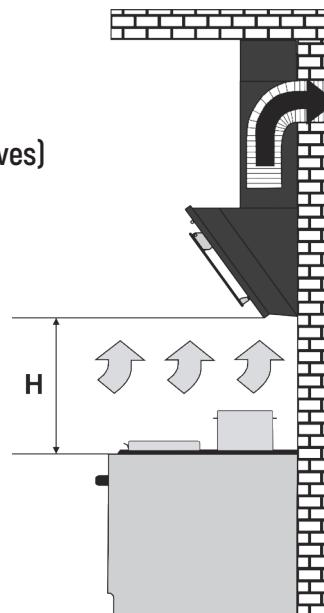

Fig. 1
4.5 When the cooker hood is installed above a stove at appropriate **installation height H (Fig. 1)** use an air **duct Ø150 / Ø120 mm** to exhaust air into a chimney. Lesser diameter will cause an additional resistance to air leading to increased noise, vibration and motor overheating.
- air exhaust into a kitchen chimney (Fig. 1);